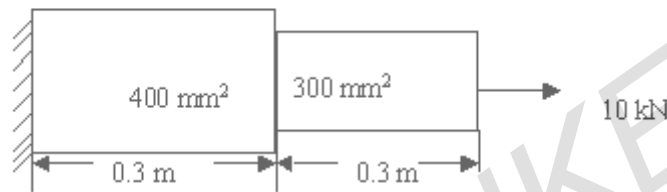

Figure 8
8. Determine the natural frequencies and mode shapes of a stepped bar as shown in figure 8 using the characteristic polynomial technique. Assume  $E = 250\text{ GPa}$  and density is  $7850\text{ kg/m}^3$ . [16]